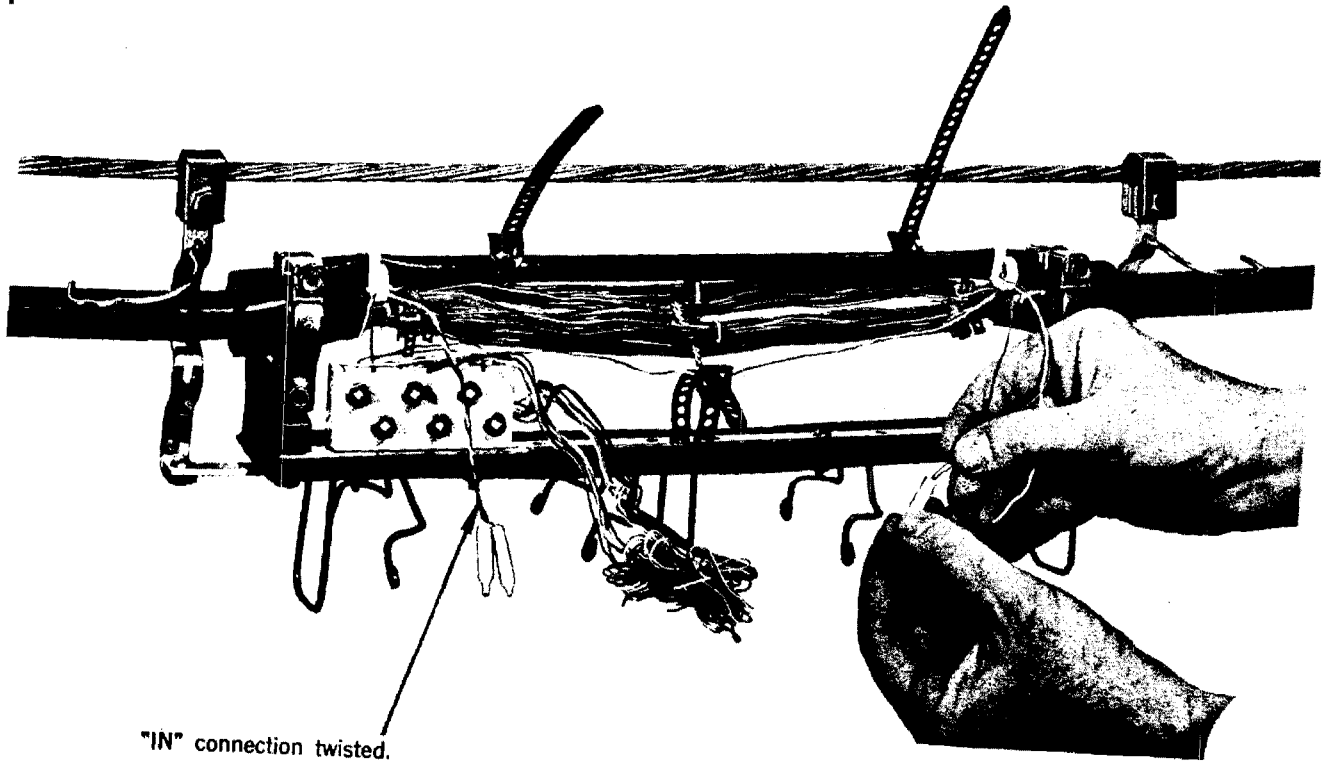

Fig. 7 - Terminated Pairs Twisted Together
5.04 The terminated pairs are then twisted together. See Fig. 7.